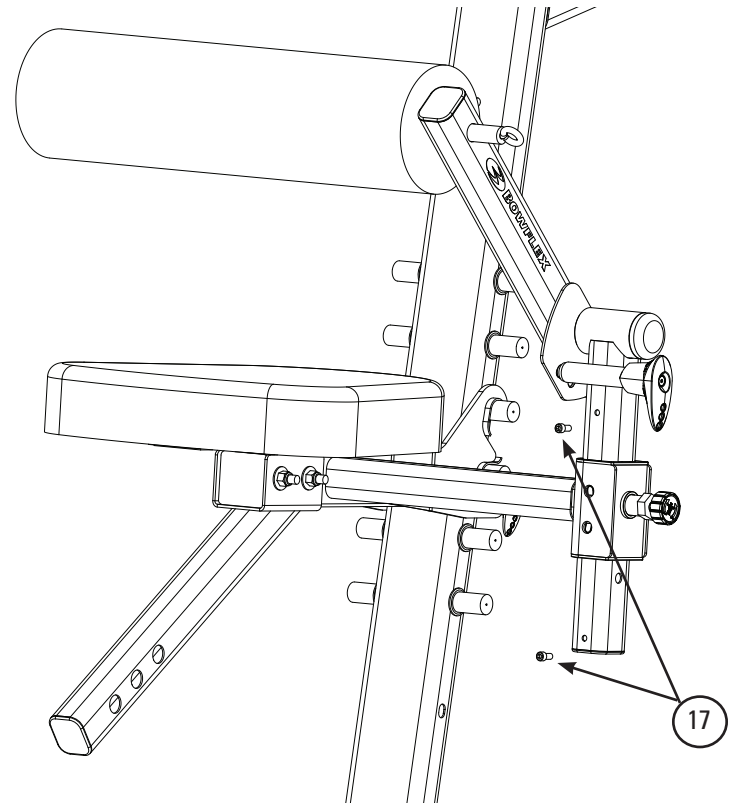

Figure 5b - view from front of seat
- 5-2 Screw one 1/4" X 1/2" Bolt (17) into the lowest hole on the Upper Assembly support. See **Figure 5b**. Screw the other 1/4" X 1/2" Bolt into the highest hole on the support.